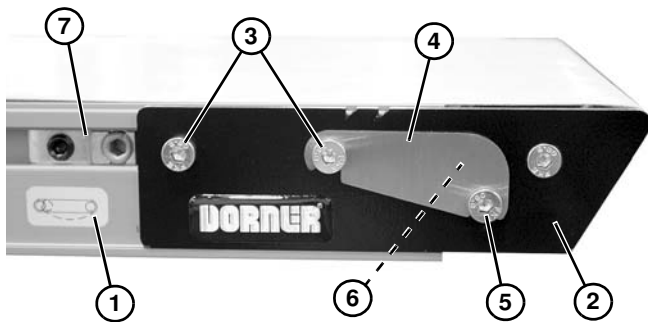

Figure 86
1. On tension end of the conveyor, identified with a  label (**Figure 86, item 1**), adjust head plate assembly (**Figure 86, item 2**):
- a. On both sides of conveyor, loosen fastening screws (**Figure 86, item 3**).
- b. If equipped with dust covers (**Figure 86, item 4**), loosen screw (**Figure 86, item 5**) and remove dust cover on both sides of conveyor. Tighten screw (**Figure 86, item 5**).
- c. Rotate pinion gear (**Figure 86, item 6**) to adjust head plate assembly.
3. After adjusting proper tensioning, tighten fastening screws (**Figure 86, item 3**) on both sides of conveyor to 60 in-lb (7 Nm).
4. If equipped, install dust covers (**Figure 86, item 4**).
5. If equipped with cam tracking assemblies (**Figure 86, item 7**) position against head plates and adjust belt tracking. Refer to "Conveyor Belt Tracking", next section.